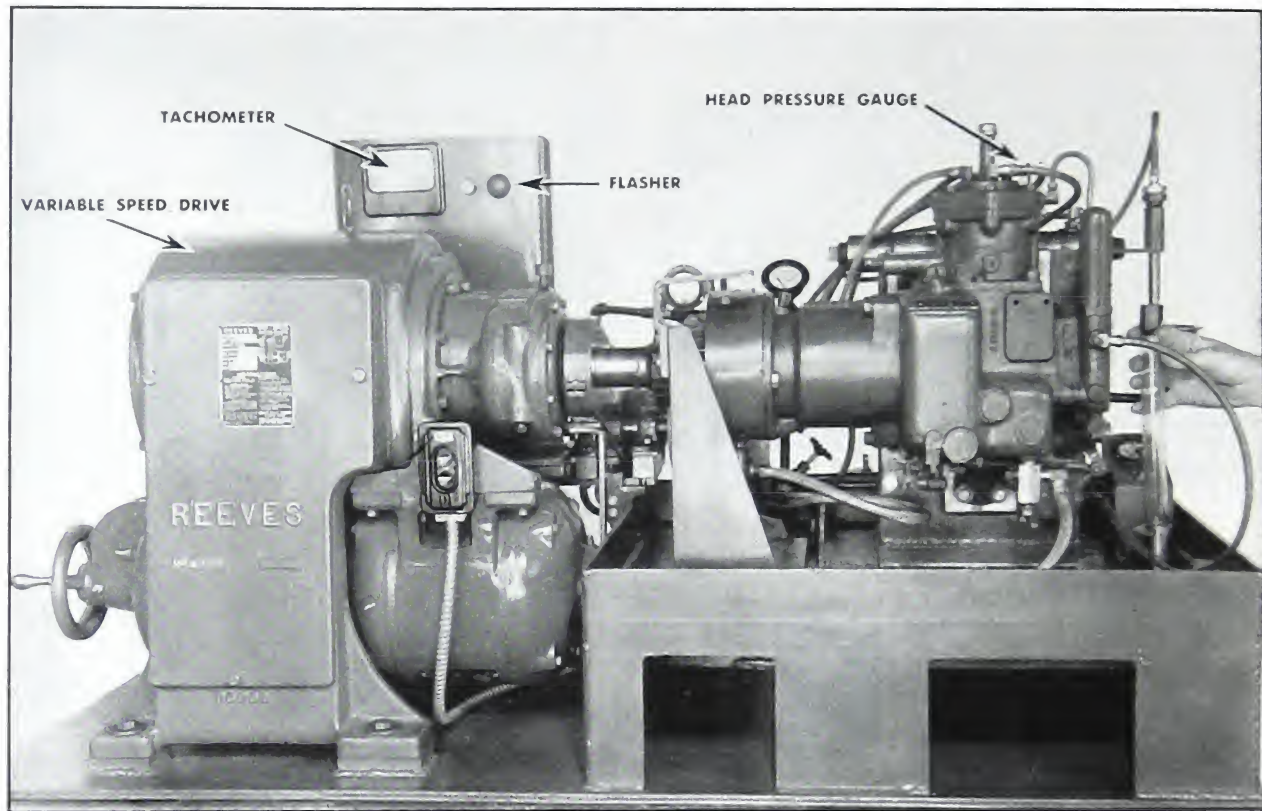

Fig. 5-384. ST-273 fuel pump test stand
2. ST-273 is a test stand that will meet all the above specifications. Fig. 5-384.